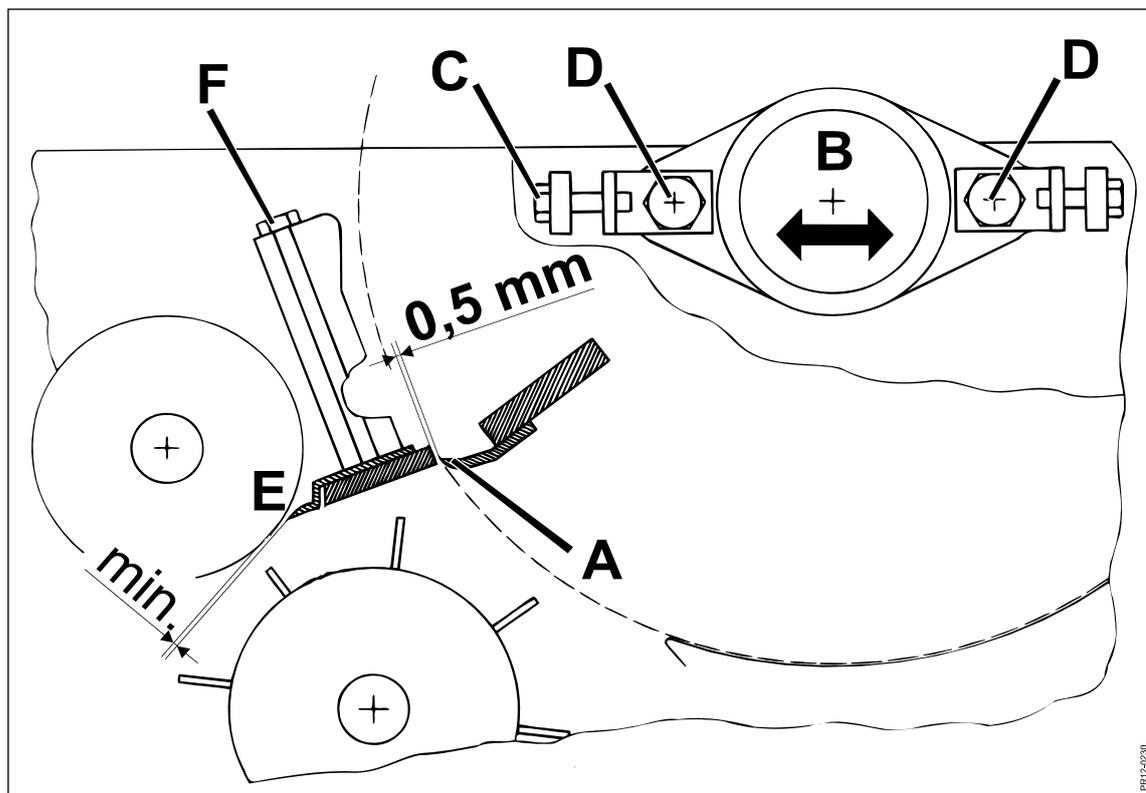
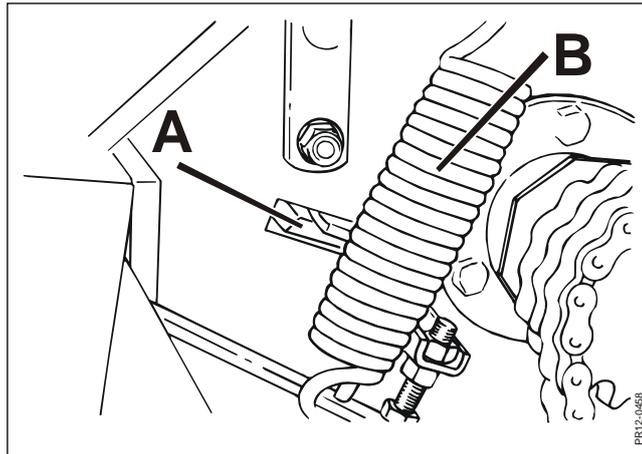

Fig. 4-15
Fig. 4-16
**Fig. 4-15** The distance **A** between the blades of the rotor and the shear-bar must be checked regularly with the delivered gauge (distance measuring device). You should aim at a distance of 0.5 mm. If it is necessary to adjust the distance, loosen the 2 bearing housings **B** and adjust with the screws **C**. When the distance has been checked, the bolts **D** of the bearing housings are tightened with a torque wrench to 40 kgm (400 Nm).
**Fig. 4-16** The scraper is dismantled by removing the screws **F** (on fig. 4-15), which also secure the shear-bar, after which scraper and shear-bar can be pulled out of the opening **A** in the rotor housing. The spring **B** for the serrated roller must be loosened or dismantled to get enough space. If the shear-bar has been worn, it can be reversed for a new sharp edge.